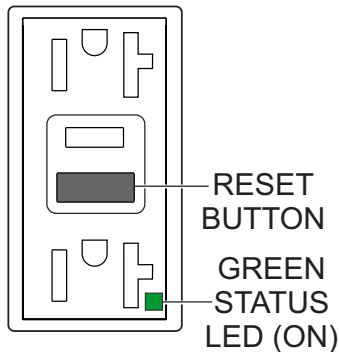

Figure 55. GFCI Receptacle (ON/Restore)
5. Press the **RESET button** (Figure 55) to restore power to the GFCI receptacle and verify that the status LED is **ON (GREEN)**.